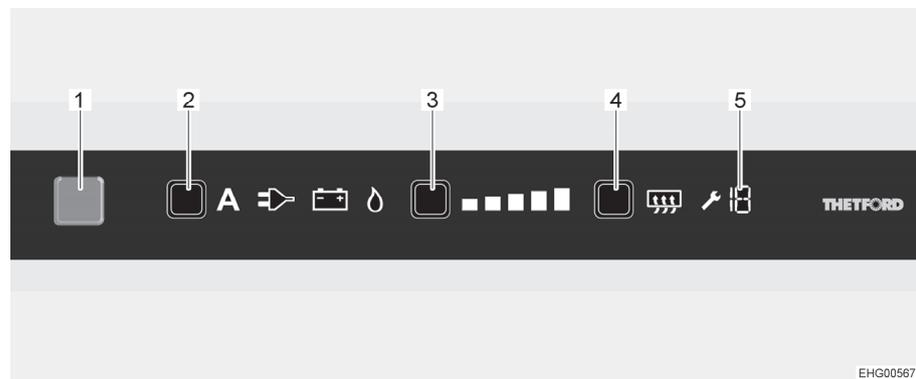

Fig. 133 Operating controls
When turned on the refrigerator automatically selects the thermostat position selected last. This setting can be adjusted manually by using the cooling level button (Fig. 133,3). The illuminated bars of the cooling level indicator show the selected thermostat position. The refrigerating temperature for all three types of energy is set with the cooling level button. It takes a few hours till the refrigerator reaches its normal operating temperature. When changing over the operating mode the thermostat setting will be maintained. The refrigerating temperature is retained regardless of the type of energy being used.
- Press and hold the On/Off button (Fig. 133,1) for 1 second. Button lights up blue. To save energy, after approximately 10 seconds the display is dimmed.
- Press the power selection button (Fig. 133,2) repeatedly until the desired energy source has been selected.
- Press the cooling level button (Fig. 133,3) repeatedly until the desired cooling level has been selected. The current cooling level is indicated by illuminated bars.
- Press and hold the On/Off button (Fig. 133,1) for about 2 seconds. All lights go out. Refrigerator is switched off.